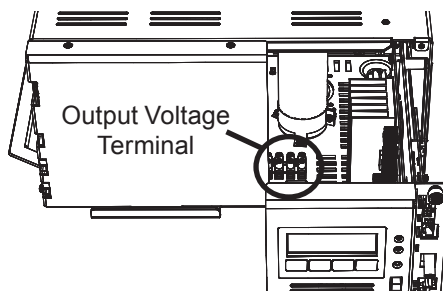

Fig. 2-21, Voltage Terminal Location behind Inverter Module
- To access Output Voltage Terminal, remove the Inverter Module (see **Fig. 2-21**).